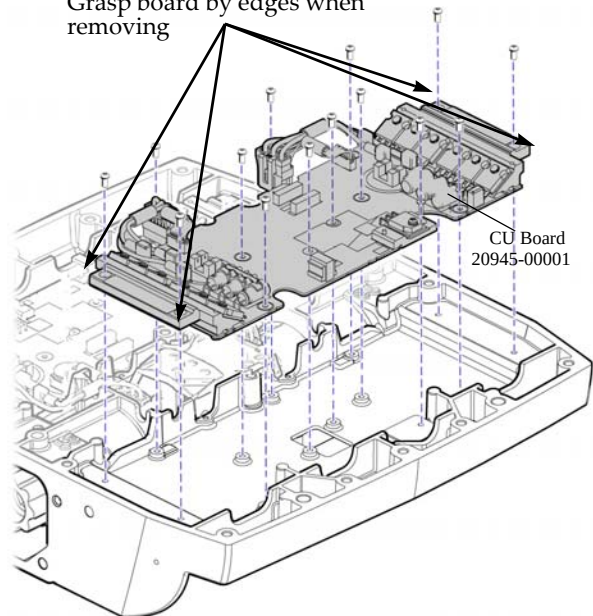

Figure 11-4: Remove CU Board
8. Use a T-10 6-lobe torque wrench to remove 14 self-tapping screws that mount the CU board to the chassis. See Figure 11-4.
9. Grasp CU board on edge of heat sink and lift from chassis. See Figure 11-4.